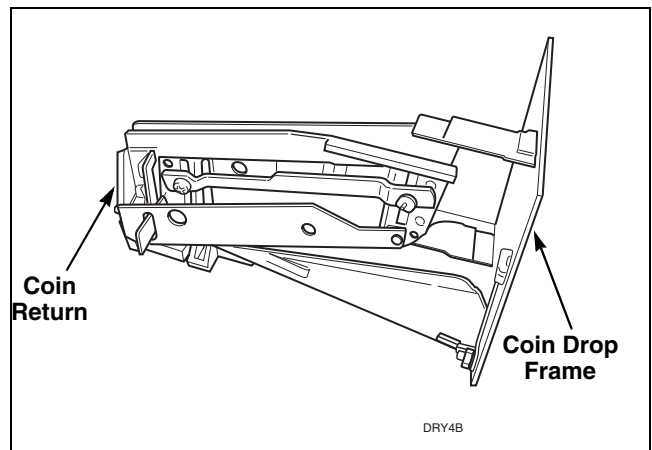

Figure 19
- Remove coin return from coin drop frame. Refer to *Figure 19*.